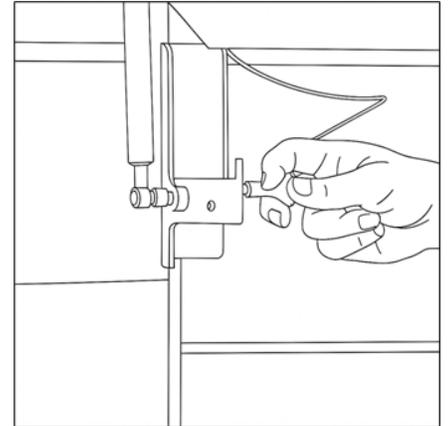

Figure 13 - Locking Pin
7. Fold and lock table in upright position using the locking pin (refer to Figure 13).